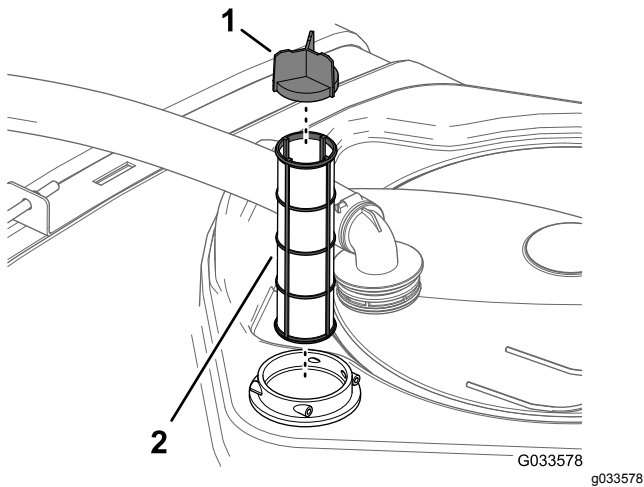

Figure 21
4. Pull the suction strainer out of the filter housing in the tank (Figure 21).